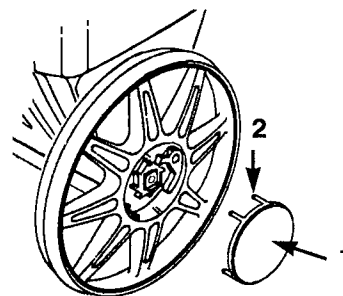

Figure 15
15. Install the hub cap (Fig. 15). Be sure to align the tabs of the hub cap with the grooves in the wheel as you snap the hub cap in place.